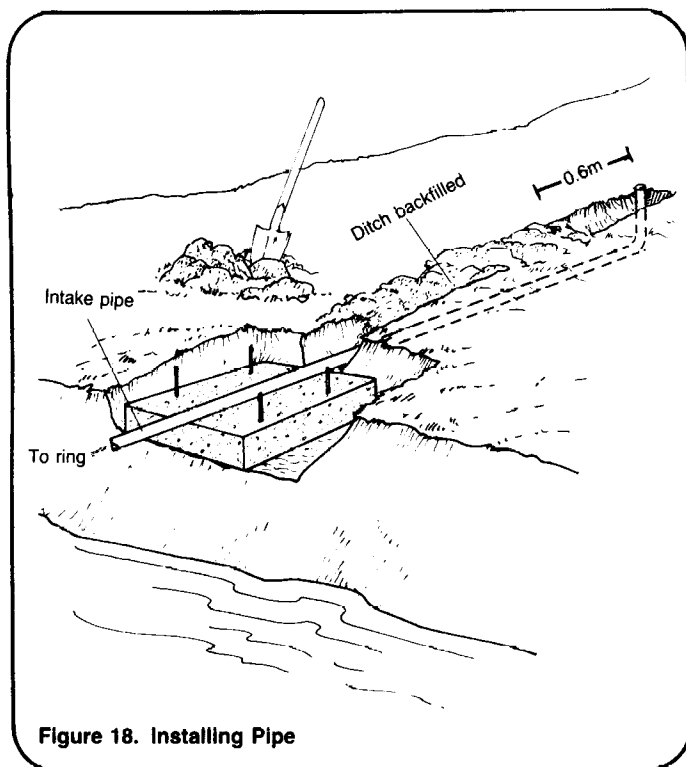

Figure 18. Installing Pipe
7. Lay the pipe into the trench and under the catwalk. Backfill the trench up to the last 0.60m of the connection to the pump as shown in Figure 18.